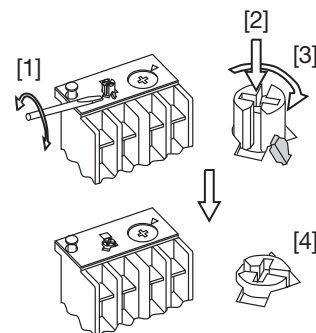

Fig. 4
(5) Switching from manual reset to automatic reset [Fig. 4]